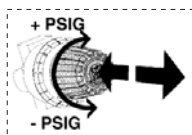
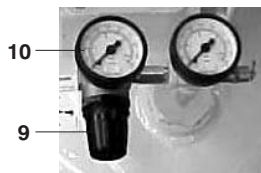

FIGURE 11
FIGURE 12
1. Completely open pressure regulator **9** (Figure 11 - see item 11 below).
11. Pressure regulator **9** (Figure 11) must be used as follows : Pull knob turning right or left to set desired pressure, push knob down. The desired work pressure will be shown in the pressure gauge **10** (Figure 12).